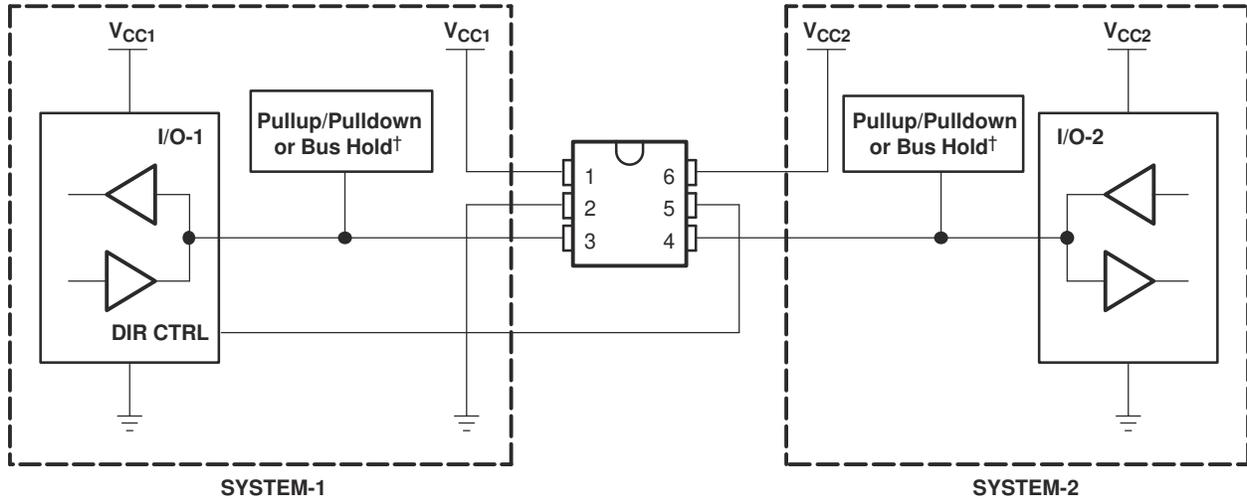

Figure 8-3. Bidirectional Logic Level-Shifting Application
Figure 8-3 shows the SN74AXC1T45 being used in a bidirectional logic level-shifting application. Because the SN74AXC1T45 does not have an output-enable (OE) pin, the system designer should take precautions to avoid bus contention between SYSTEM-1 and SYSTEM-2 when changing directions.